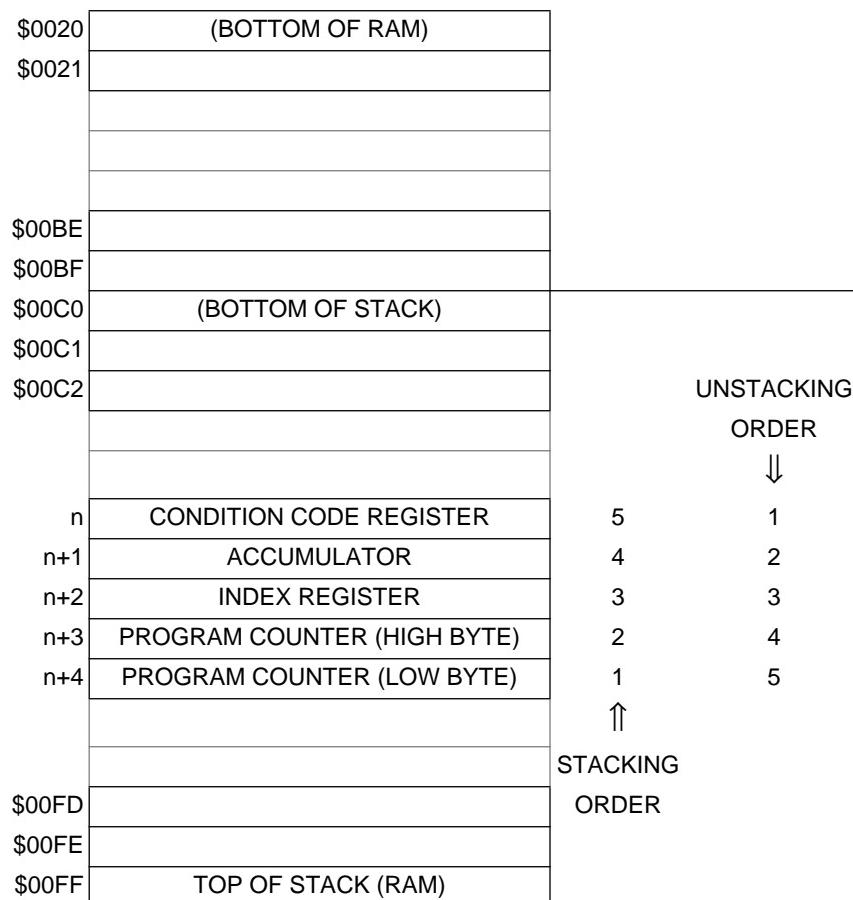
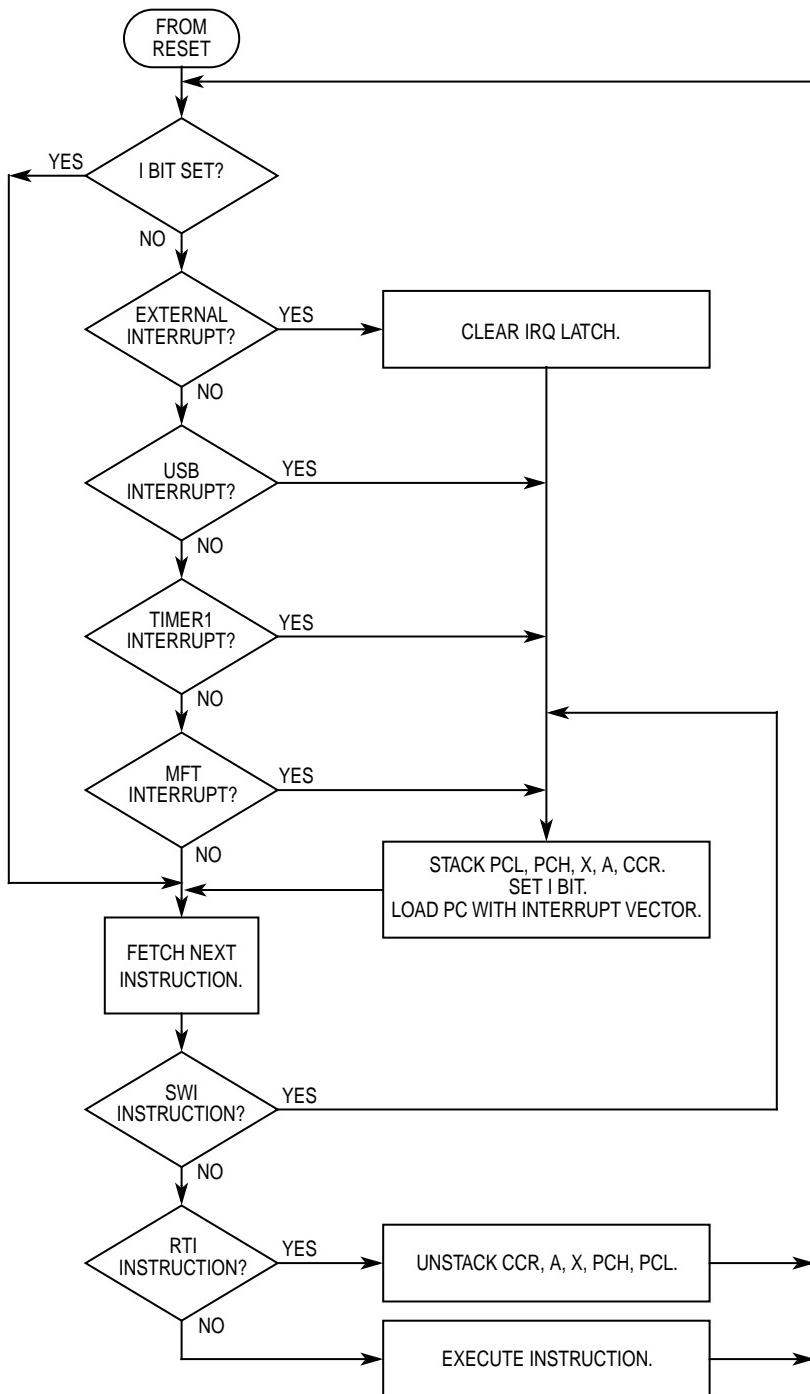

Figure 4-1. Interrupt Stacking Order
Figure 4-2. Interrupt Flowchart
- Stores the CPU registers on the stack in the order shown in **Figure 4-1**.
The return from interrupt (RTI) instruction causes the CPU to recover its register contents from the stack as shown in **Figure 4-1**. The sequence of events caused by an interrupt are shown in the flow chart in **Figure 4-2**.
The RESET function is not in the strictest sense an interrupt; however, it is acted upon in a similar manner as shown in **Figure 4-2**. A low level input on the **RESET** pin or an internally generated RST signal causes the program to vector to its starting address which is specified by the contents of memory locations \$1FFE and \$1FFF. The I-bit in the condition code register is also set.